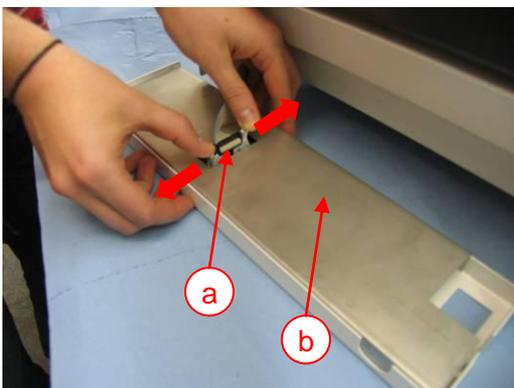

Fig. 17 – unplug ribbon cable
- Unplug the ribbon cable (Fig. 17) and close the connector retainer clips.
- Remove the top housing cover (Fig. 17 b)
- Check whether the locking mechanism if the connector is closed (Fig 17 a)
- Reconnect the ribbon cable (Fig 17 a)